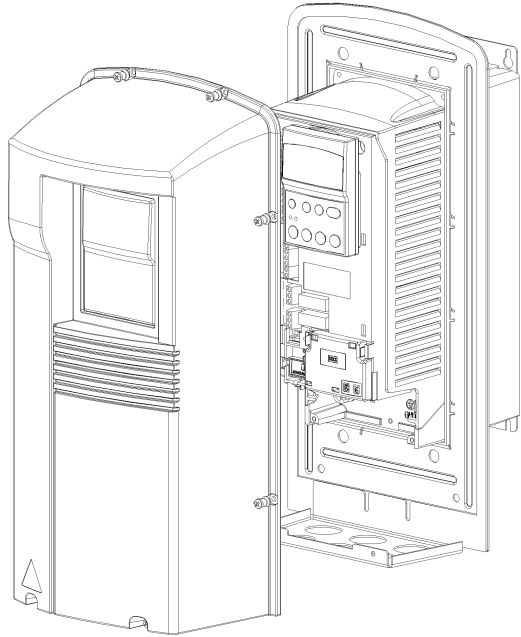

Figure 10 Opening type IP 54/NEMA Type 12 & 4 drives.
- 1 Remove the front cover, see Figure 10.